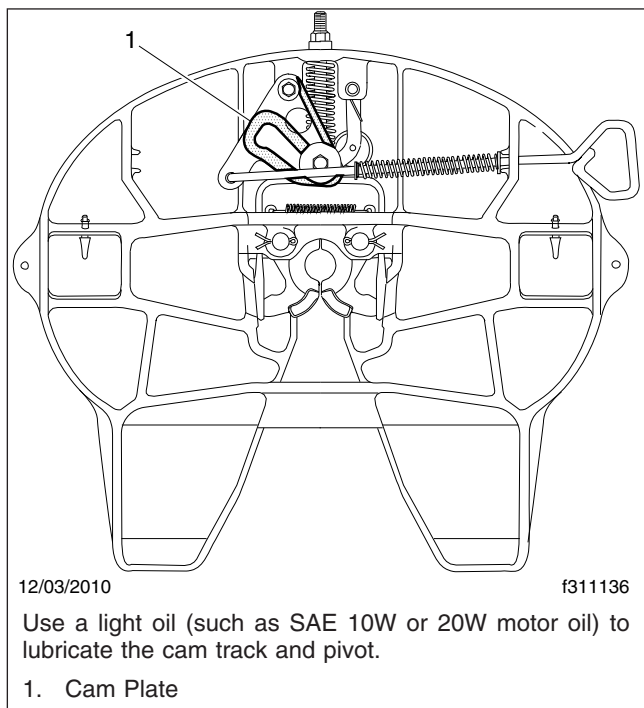

Fig. 9, Holland FW35 Fifth Wheel, Oil Lubrication
2. Using a light oil (such as SAE 10W or 20W motor oil), lubricate the cam track and pivot. See **Fig. 9**.